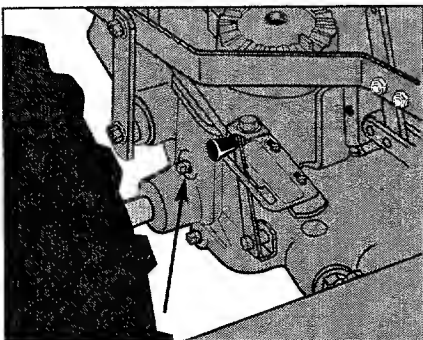

Figure 5-7: Remove oil level check plug. Gear oil should seep out if the level is sufficient.
2. Use a 3/8" wrench to remove the oil level check plug on the left side of the transmission housing (refer to Figure 5-7).
left side of the transmission (Figure 5-7).
2. Remove the oil level check plug (see Figure 5-7) with a 3/8" wrench. This vents the transmission for faster oil draining.